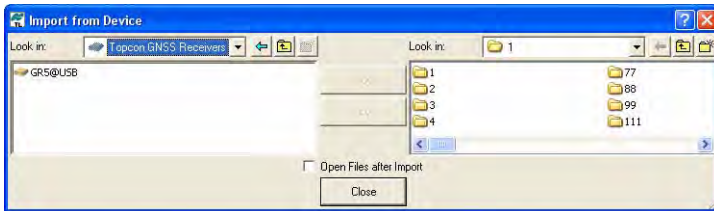

Figure 5-4. Import From Device Window
- From the left panel of the *Import from Device* dialog box, double-click *Topcon Receivers* (Figure 5-4).
The program automatically searches for Topcon receivers connected to the computer ports (COM and USB). When finished all receivers connected to the computer ports (Figure 5-4) display.